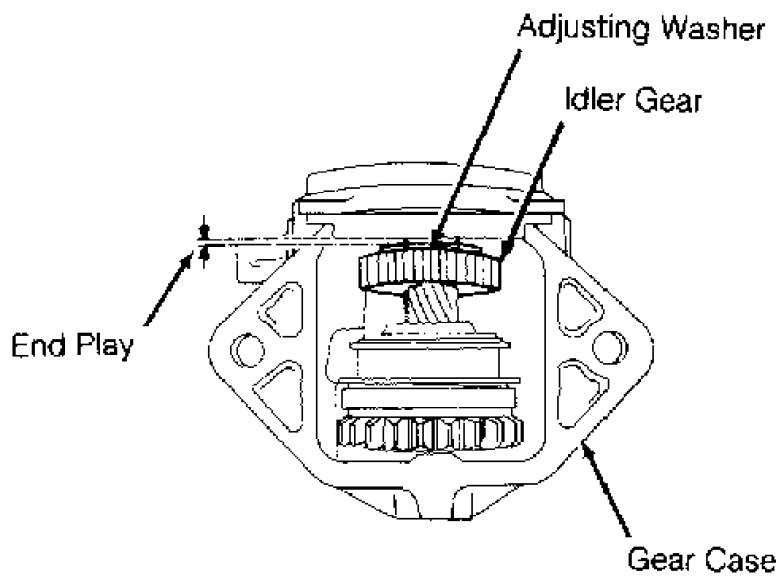

Fig. 8: Checking Pinion End Play (M30 With Mitsubishi Starter)
2) On M30 Mitsubishi starter, assemble gear case, pinion assembly, idler gear, adjusting washers and center bracket. Turn idler gear by hand in axial direction and check end play between idler gear and rear of gear case. See Fig. 8. End play should be .004-.020" (.1-.5 mm). Adjust by installing adjusting washer between idler gear and center bracket. M30 with Hitachi starter, G20 and Q45 have no end play requirements.